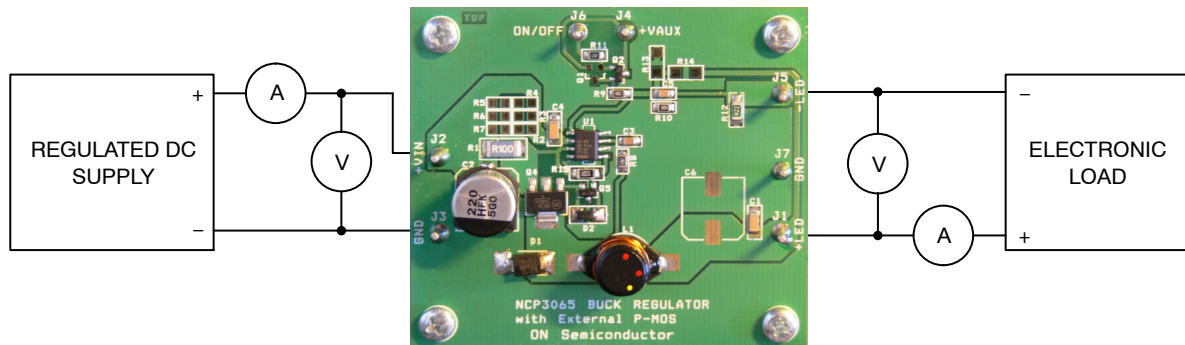

Figure 28. Test Setup for the NCP3065 Buck Evaluation Board
1. Connect the test setup as shown in Figure 28.